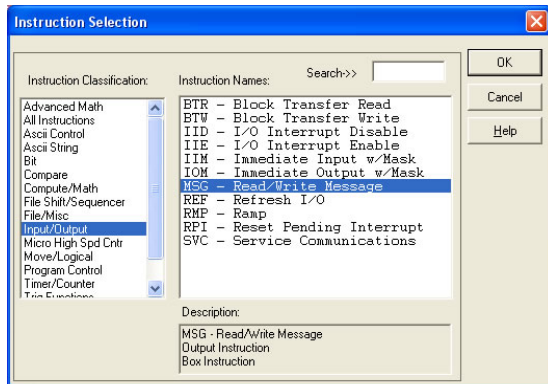

Figure 115: MSG Instruction Selection
- Select the “MSG” instruction from the “Input/Output” classification, then click OK. Refer to Figure 115.